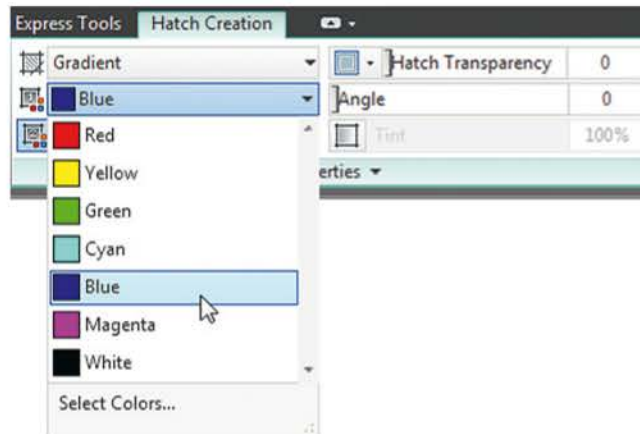

Fig. 7.18 Changing the colours of the Gradient patterns
4. Change the colour of the **Gradient** patterns with a *click* on the red option in the **Select Colors . . .** drop-down menu in the **Hatch Creation/Properties** panel. The hatch patterns all change colour to blue (Fig. 7.18).